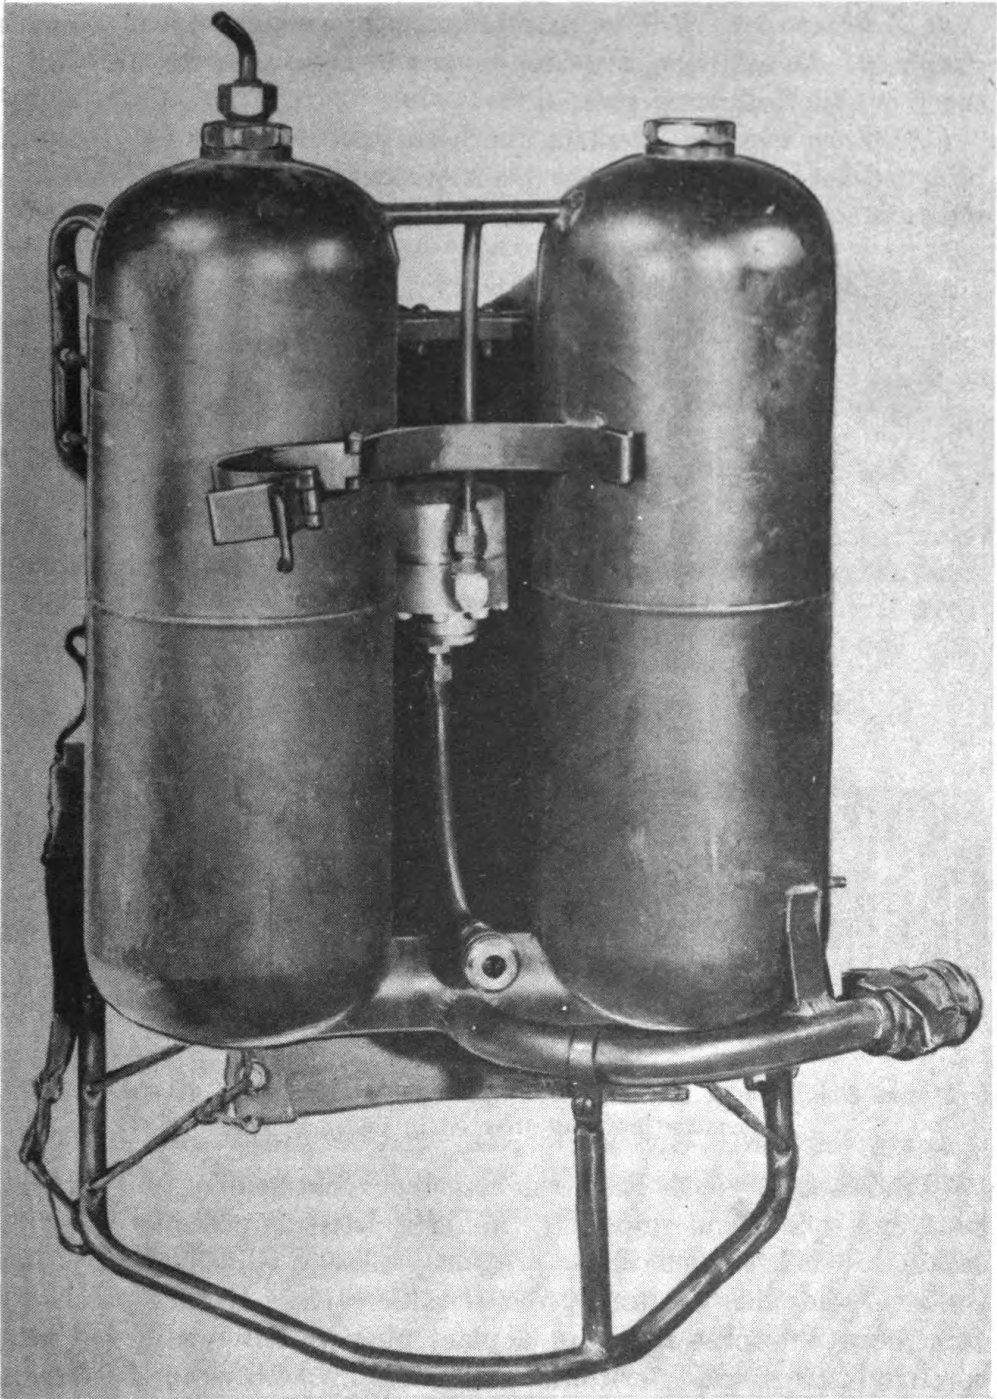

FIGURE 35.7. (Added.) Tank group, ready to receive a charged pressure tank and valve assembly.
(7) Flame thrower is now ready to receive a charged pressure tank and valve assembly. (See fig. 35.7.)